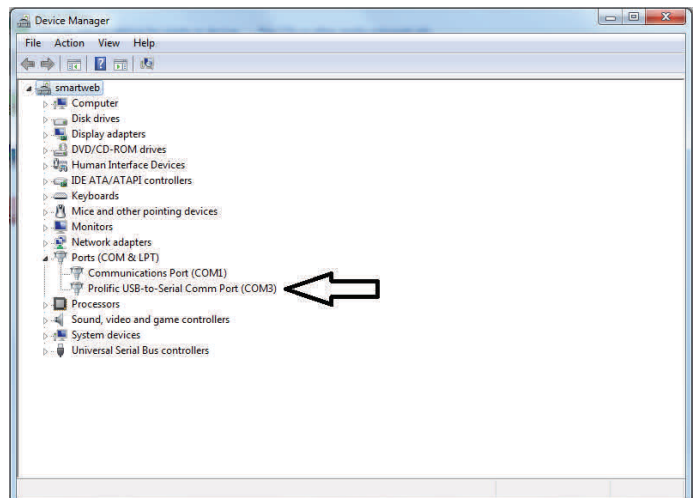

Figure 16-2
3. Use Windows Control Panel / Device Manager to identify the Com port number. See instructions and Figure 16-2 below.